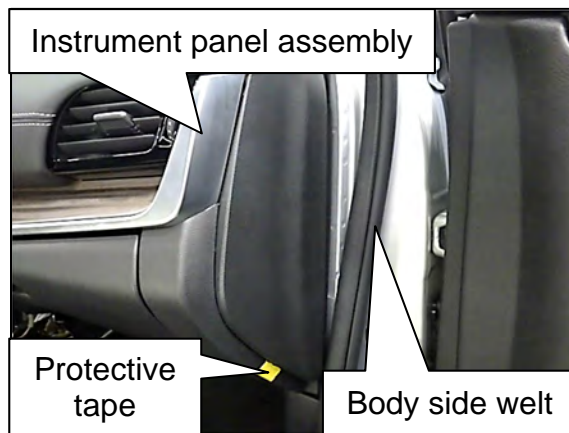

Figure 48
34. Remove the RH side body side welt, and then apply protective tape, as shown in Figure 48, to protect the instrument panel assembly from damage.